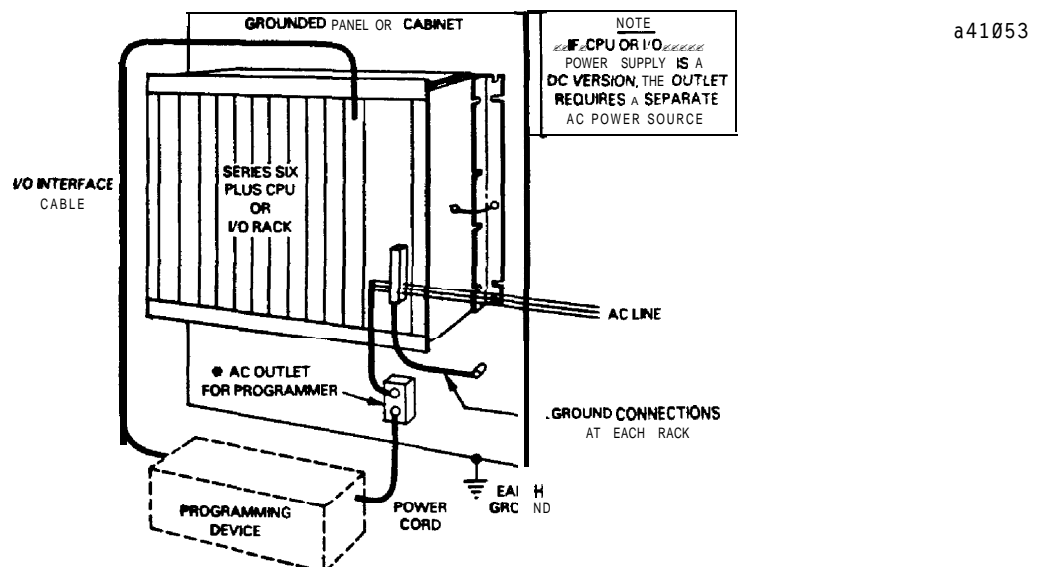

Figure 3.16 PROGRAMMING DEVICE GROUND CONNECTION
3. **Programming Device Grounding** - For proper operation, the programming device, (Workmaster computer, CMSTAR I computer, or a Program Development Terminal) must have a ground connection in common with the CPU or I/O rack to which the PDT or Workmaster computer interface cable is connected. Normally, this common ground connection is provided by ensuring that the programmer's power cord is connected to the same power source (with the same ground reference point) as the CPU or I/O rack as shown in figure 3.16.